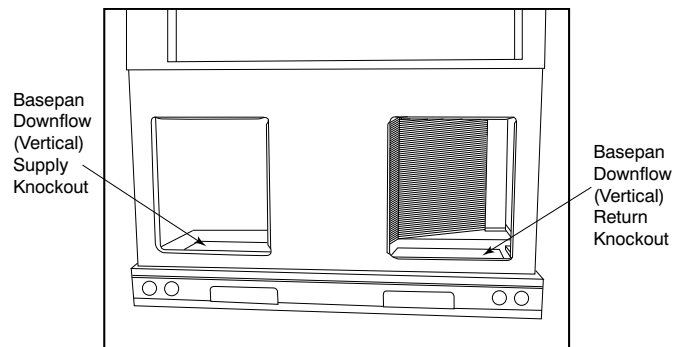

Fig. 9 – Supply and Return Duct Opening
2. Remove horizontal (metal) ductcovers to access vertical (downflow) discharge duct knockouts in unit basepan. (See Fig. 9.)
**NOTE:** These panels are held in place with tabs similar to an electrical knockout. Reinstall horizontal duct covers (Fig. 9) shipped on unit from factory. Insure openings are air and watertight.